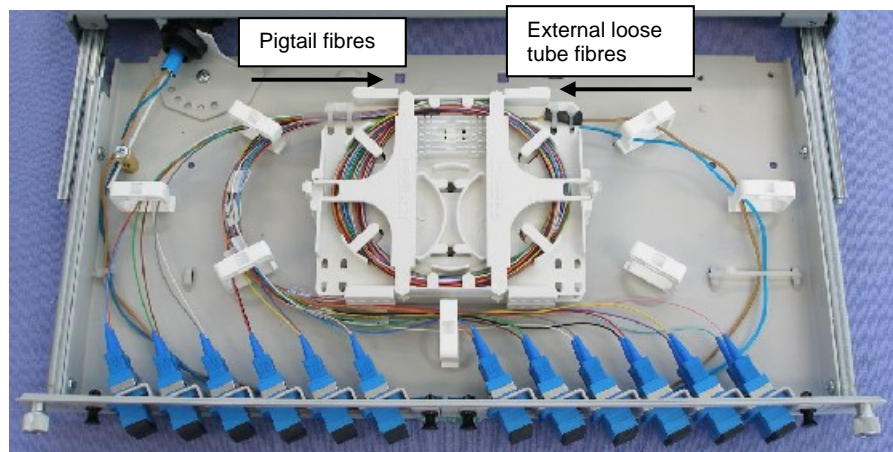

Figure 13. Fibre entry points directly opposite each other
- d) Route the pigtails through the fibre management clips, as illustrated in Figure 13.